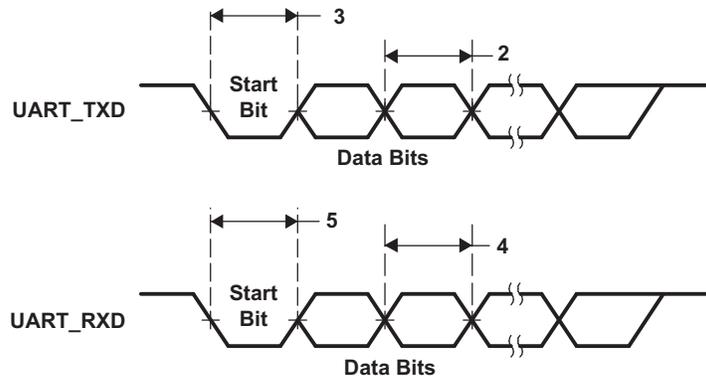

Figure 6-28. UART Transmit/Receive Timing
Table 6-31. Timing Requirements for UART Receive⁽¹⁾⁽²⁾ (see Figure 6-28)
- (1) U = UART baud time = 1/programmed baud rate.
- (2) These parametric values are measured at DV_{DDIO} = 3.3 V, 2.75 V, and 2.5 V
Table 6-32. Switching Characteristics Over Recommended Operating Conditions for UART Transmit^{(1) (2)} (see Figure 6-28)